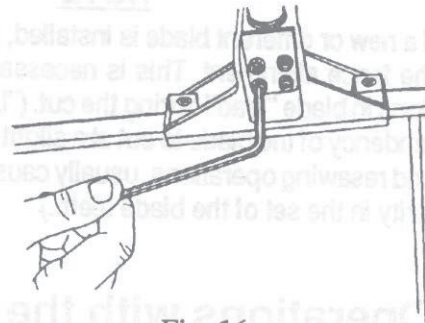

Fig. 16
14. While holding the fence in place, tighten the four socket head screws (16), as shown in Fig. 16.